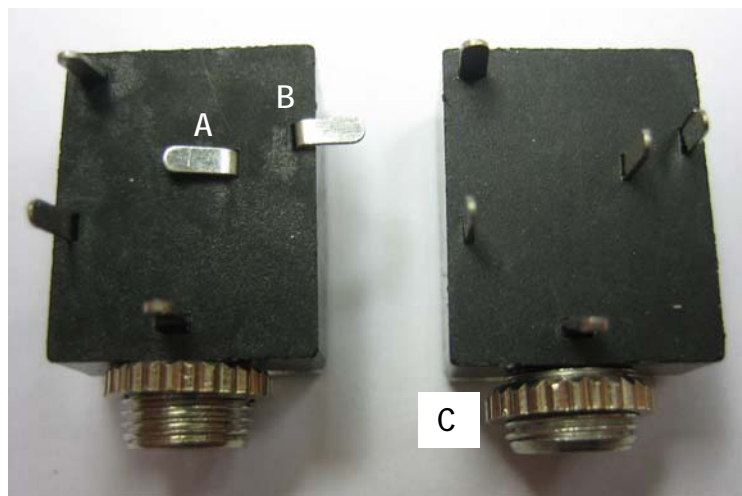

Fig 10
- With the Female PCB audio socket, you need to flatten the two leads (A & B) as shown in Fig 10. You then need to remove the nut (C) on the side (which is not needed). The three remaining leads on the socket need to be pushed firmly into the holes on the PCB before soldering.